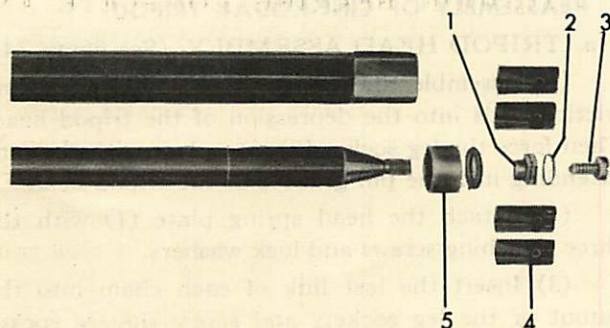

Figure 33—Tripod Leg Assembly—Exploded
7. DISASSEMBLY OF CINÉ-KODAK TRIPOD.**a. LEG ASSEMBLY.** (See figure 33.)
(2) To disassemble the leg assembly, unscrew the leg ferrule (5, figure 33), give the round leg one-half turn counterclockwise and withdraw the inner round leg assembly. Catch the adjusting split nut (4) as the leg is withdrawn.
(3) Remove the leg retaining screw (3), leg adjusting nut (1), and spring clip (2). The ferrule ribbon can be removed from the ferrule by prying it out with the blade of a knife.
c. **LEG ASSEMBLY.** (See figure 33.)
(1) Screw the leg adjusting nut (1) onto the cone of the round leg and replace the leg retaining screw
(3). Slip the spring clip (2) into the groove of the leg adjusting nut.